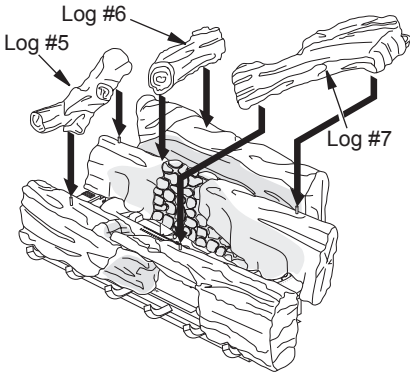

Figure 24 - Placement of Crossover Logs (Logs #5, #6, and #7)
5. Place left crossover log (log #5) on pegs of log #2 and #3 (see Figure 24). Place
- middle crossover log (log #6) on pegs of log #1 and #2 (see Figure 24). Place right crossover log (log #7) on pegs of log #2 and #4 (see Figure 24).